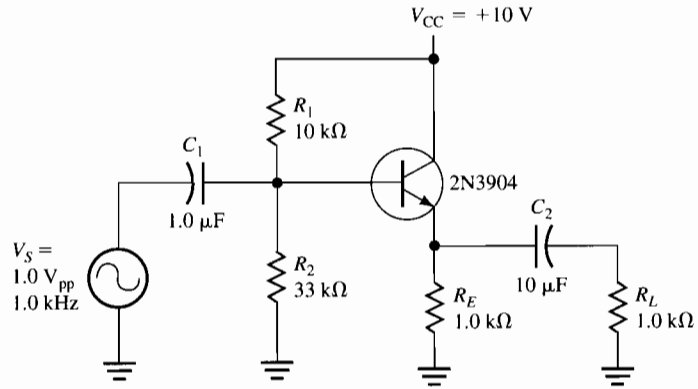

Figure 39-3
2. Compute the dc parameters listed in Table 39-2 for the emitter-follower amplifier shown in Figure 39-3. Compute V_{CE} by subtracting V_E from V_{CC} . Enter your computed values in Table 39-2.
3. Construct the amplifier shown in Figure 39-3. The signal generator should be turned off. Measure and record the dc voltages listed in Table 39-2. Your measured and computed values should agree within 10%.